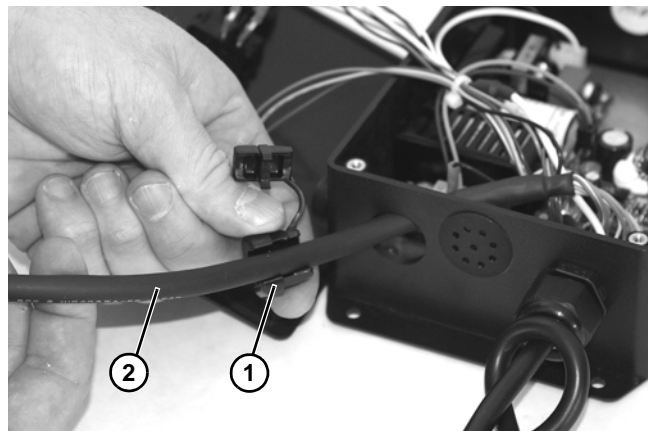

Figure 10
4. Remove cord retainer (Figure 10, item 1) from cord (Figure 10, item 2).